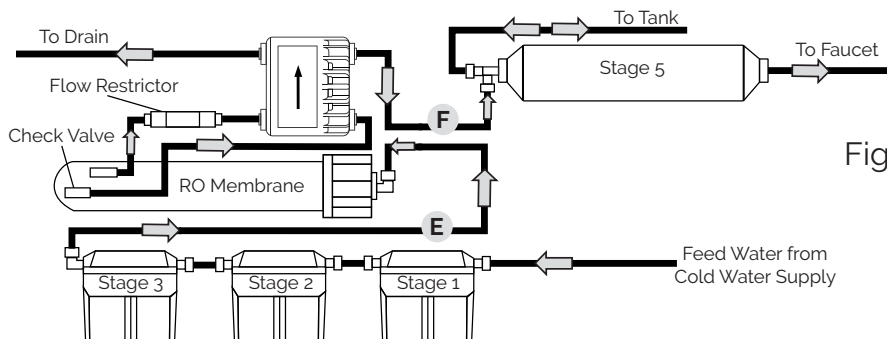

Fig. 1
- II. **Disconnect Tubing:** See Fig. 1. Remove BLUE tubing lock clip and disconnect tubing from RO Membrane Housing inlet (Line E). Remove BLUE tubing lock clip and disconnect tubing from tee-connection on Stage-5 filter (Line F).